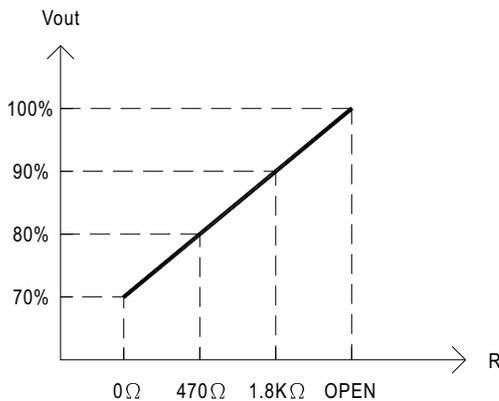

Fig. 3.1 External Resistor (Typical)
- Adjustment of output voltage is possible between 70~100%(Typ.) of the rated output which is shown in Fig. 3.1